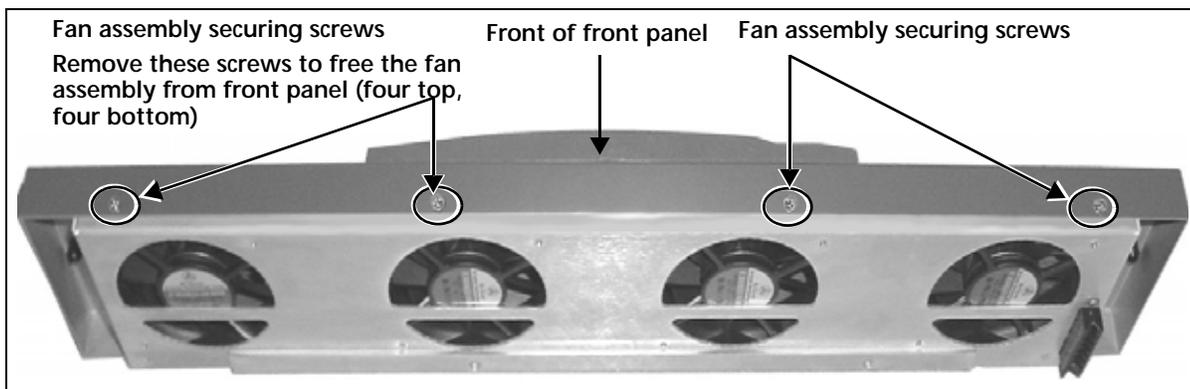

Figure 2-11 Removing the Fan Assembly from the Front Panel
- 3 Remove the screws on the top and bottom edges of the front panel that hold the fan assembly cover in place (see Figure 2-11).
- 7 Position a new fan over the assembly standoffs, and then fasten the fan into place with the supplied screws (see Figure 2-11 on page 20).